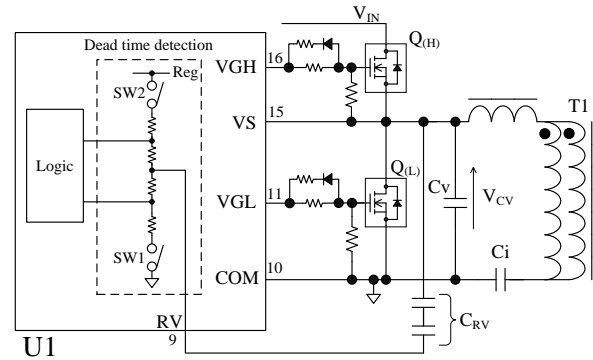

Figure 8-19. RV Pin Peripheral Circuit and Dead Time Detection Circuit
Figure 8-19 shows the RV pin peripheral circuit and the internal dead time detection circuit. The external components for this function is only high-voltage ceramic capacitor, C_{RV} , connected between the VS pin and the RV pin. The value of C_{RV} is about 5 pF.
After $Q_{(L)}$ turns off, SW2 is turned on while SW1 is kept on state. The resonant current flows through C_V , C_i and $T1$ (refer to Figure 8-19) and the C_V voltage, V_{CV} , increases from 0 V. When V_{CV} becomes Equation (11), the resonant current flows through the body diode of $Q_{(H)}$ and V_{CV} is clamped $V_{IN} + V_{F(H)}$.
After $Q_{(H)}$ turns off, SW1 is turned on while SW2 is kept on state. The resonant current flows through C_V , C_i and T_1 (refer to Figure 8-19) and the C_V voltage, V_{CV} , decrease from the input voltage, V_{IN} .